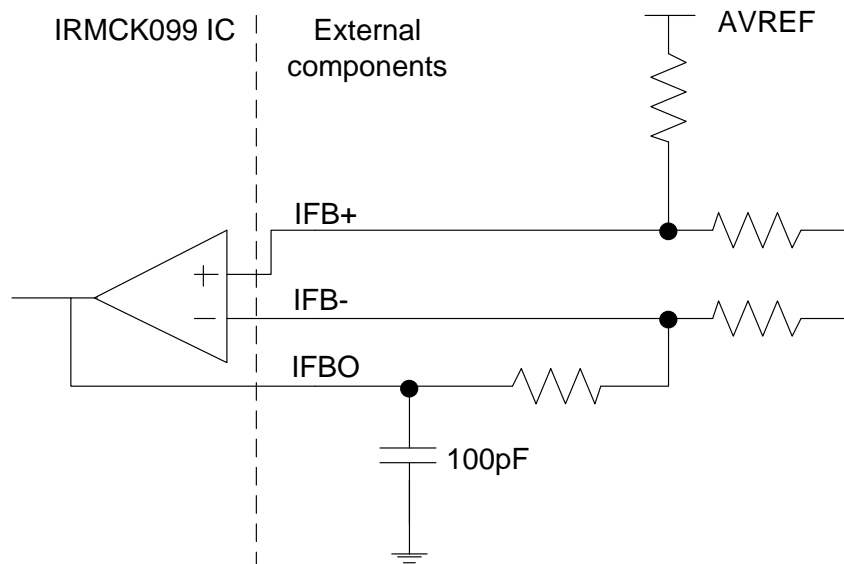

Figure 6. Op amp output capacitor
(1) Data guaranteed by design.
(2) To guarantee stability of the operational amplifier, it is recommended to load the output pin by a capacitor of 100pF, see Figure 6. Here only the single shunt current amplifier is shown but all op amp outputs should be loaded with this capacitor value.